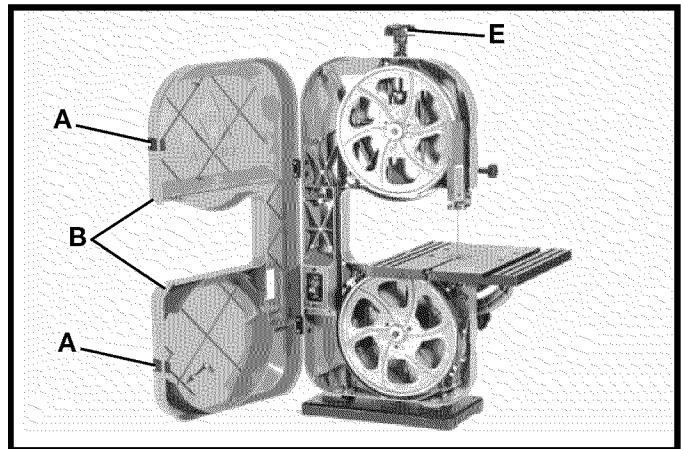

Fig. 39
2. Press in door latches (A) Fig. 39, and open door (B) as shown.
4. Release tension on the band saw blade by turning tension knob (E) Fig. 39 counterclockwise.
10. Close door (B) Fig. 39, before operating saw.